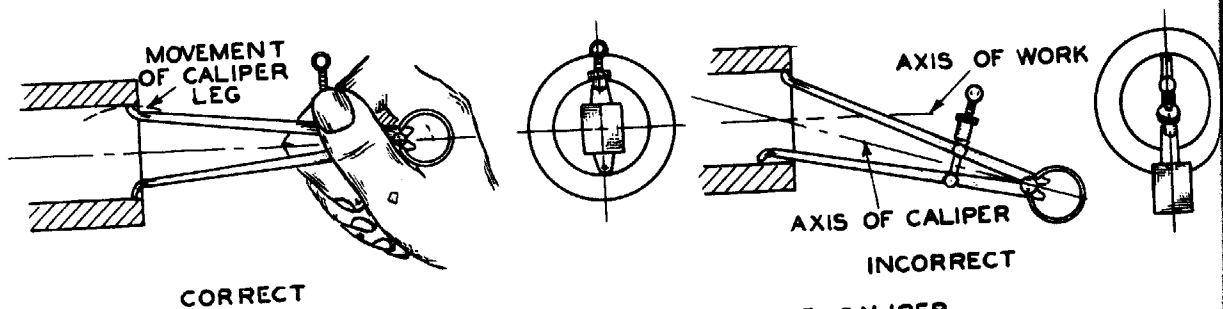

FIG. 6 CORRECT AND INCORRECT USE OF CALIPER
1. To take an inside measurement, hold the caliper in the right hand with the thumb and forefinger grasping the knurled adjusting nut (Fig. 6).
2. Rest one leg of the inside caliper slightly inside of the edge of the space to be measured. Turn the adjusting nut until the caliper is felt striking the high point of the arc on entering the space to be measured (Fig. 6).